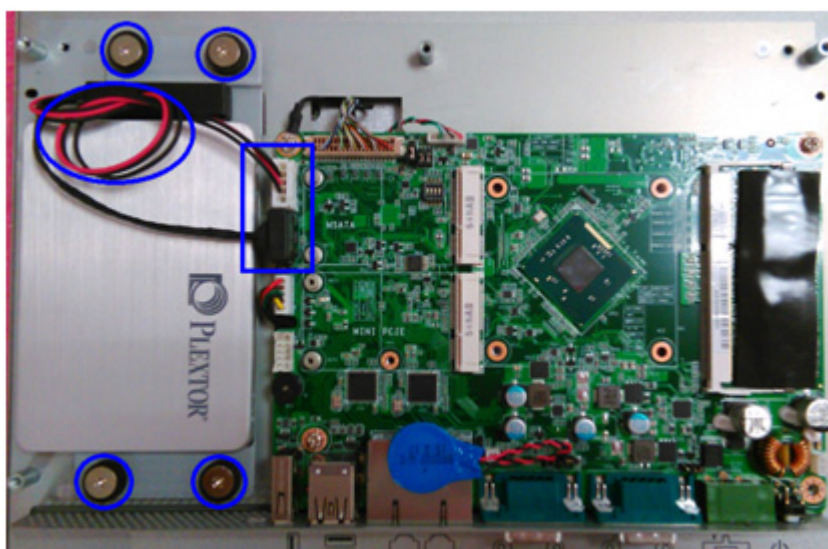

Figure 2.12 SATA HDD connected to the main board
- Affix the SATA HDD bracket to the main board. Tie the SATA power cable in place and then plug the cable into the corresponding connector on the motherboard (Figure 2.12).